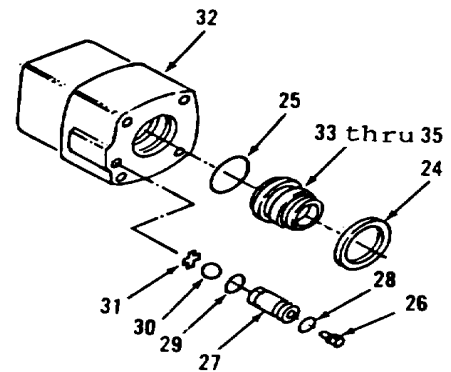

Figure 8-9.
7. Remove snap ring (24), items 33 thru 35 as an assembly and preformed packing (25) from pump body (32, Figure 8-9). Discard preformed packing (25).